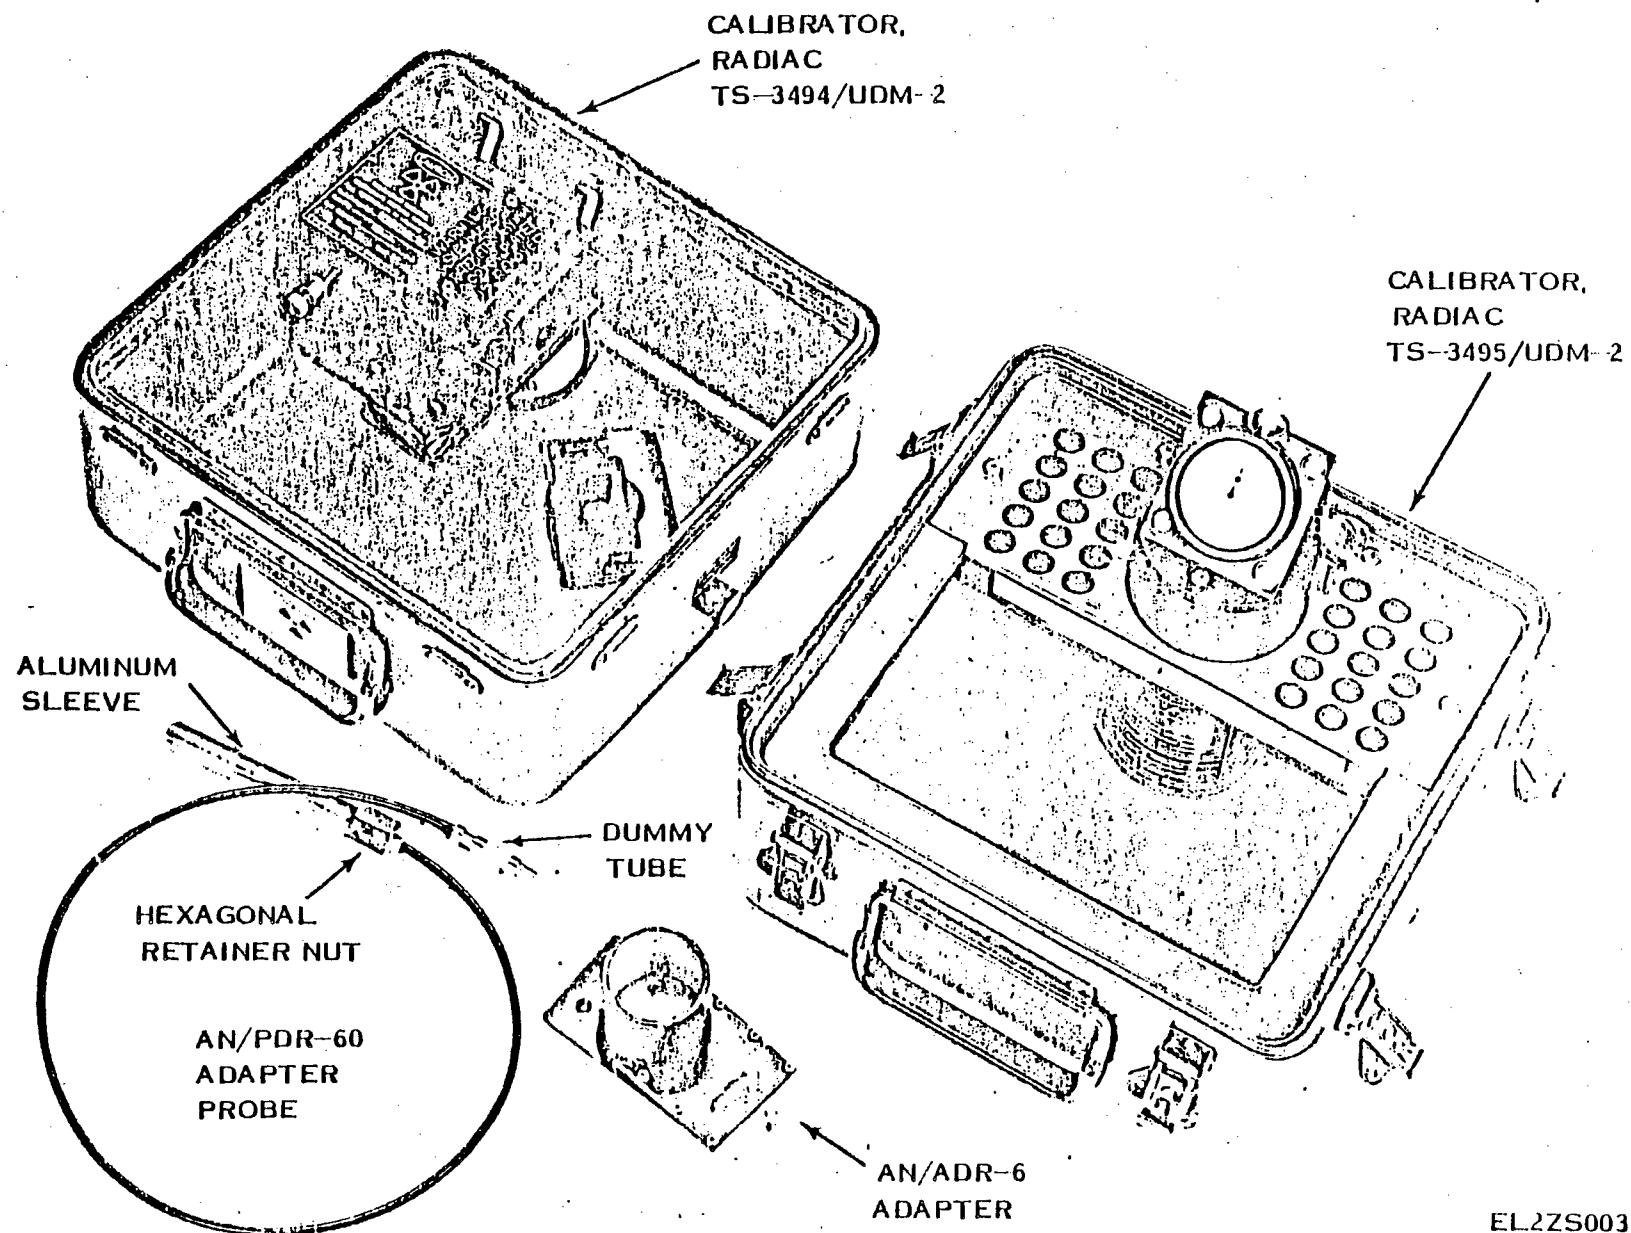

Figure 1-1, Calibrator Set, Radiac AN/UDM-2.
a. This manual describes Calibrator Set, Radiac AN/UDM-2 (fig. 1-1) and covers its installation, operation, and organizational maintenance. It includes instructions for initial service, operation cleaning, and inspection of the equipment.
(fig. 1-1)
(figs. 1-1, 1-2, and 1-3)
Calibrator Set, Radiac AN/UDM-2 (fig. 1-1) consists of two major assemblies, Calibrator, Radiac TS-3495/UDM-2 and Calibrator, Radiac TS-3494/UDM-2, plus the AN/PDR-60 adapter probe, and the AN/ADR-6 adapter. Each major assembly is housed in one-half of a waterproof, aluminum case.
c. *Miscellaneous.* The AN/PDR-60 adapter probe (fig. 1-1) is furnished to enable checking the operational capability of the gamma range of the AN/PDR-60. The AN/ADR-6 adapter is furnished to enable checking Aerial Radiac System AN/ADR-6.
understood by all personnel before operating the AN/UDM-2. Hazardous radioactive materials are permanently installed in the major assemblies (fig. 1-1). Refer to the inside of the front cover and to TB 11-6665-227-12 for information on handling, storage, transportation, operation, and disposal of the radioactive materials.
*b.* Release the eight fasteners (fig. 1-1) and separate the two halves of the AN/UDM-2.